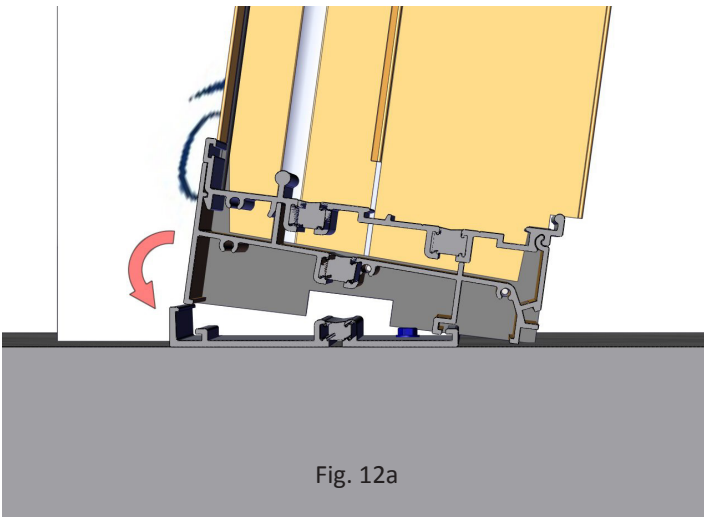

Fig. 12a
3. Angle the door frame with the top tilted out, and set the exterior sill frame inside the exterior leg of the sub-sill anchor plate. (Fig. 12a)